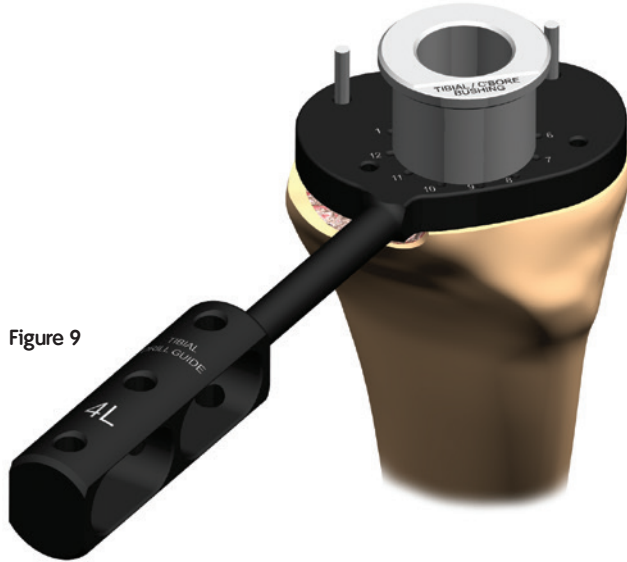

Figure 9
5. Insert the Tibial Counterbore Guide Bushing into the Tibial Drill Guide (Figure 9).